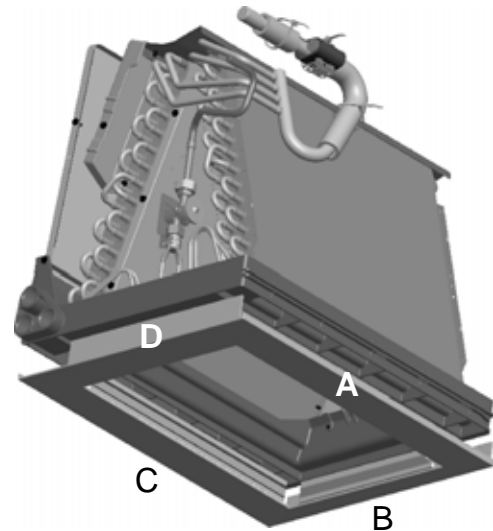

FIGURE 2 - Rolled Edge Location
- Line up side A of the insulation with side A of the drain pan and firmly attach the insulation to the drain pan with roughly a ¼" portion of the insulation folded over the edge as shown in Figures 2 and 3. Fold the insulation over to cover the inside portion of the drain pan on side A.